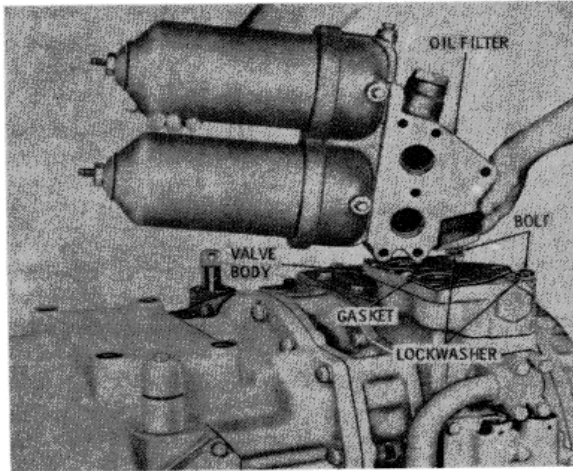

Figure 15-35. Removing Oil Filter Assembly
- 4. Before removing the filter assembly (B, Foldout 5), remove two drain plugs 33 and drain the filters. Remove bolts 2 and 4 and lockwashers 3 and 5. Remove the filter gasket and base assembly (Figure 15-35).